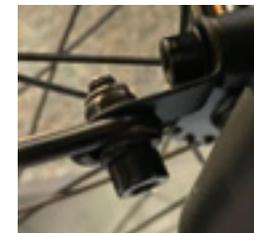

Fig. 7
4. Position the fender struts to the mounting tabs on the fork. It is okay to squeeze inward as these braces are designed to be pliable. Using the 4mm hex and 8mm open end wrench, unthread the mounting bolts. Run the bolt through the open end of the strut and fix the fork mounting tab. Thread the nut onto the back of the bolt and snug tight with the 4mm and 8mm wrenches. **(Fig. 7)**